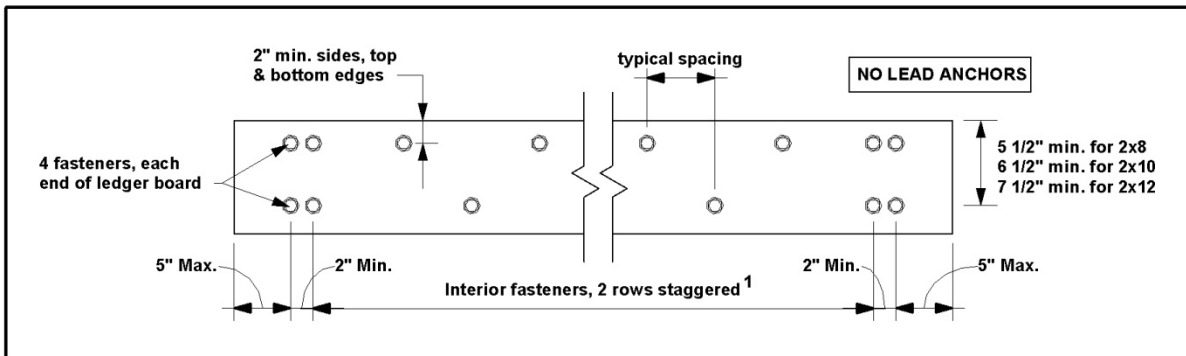

FIGURE 20: LEDGER BOARD FASTENER SPACING AND CLEARANCES
*Revise FIGURE 20: 'LEDGER BOARD FASTENER SPACING AND CLEARANCES' to read: